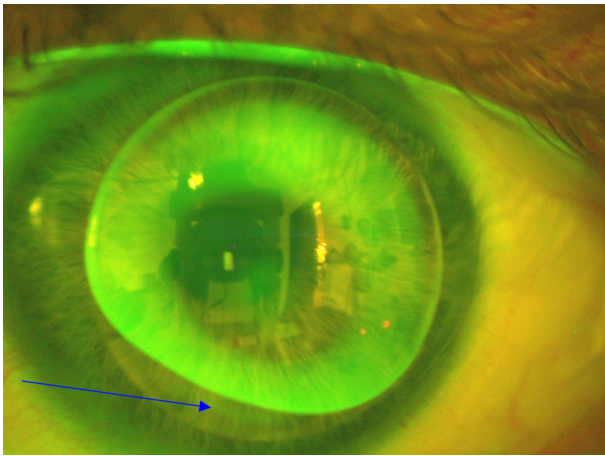

Figure 2. Fluorescein pattern with current aspheric (R)GP.
Previous (R)GP fittings had failed because of discomfort and frequent loss of the contact lens. The current aspheric, rotationally symmetrical design (R)GP lens with a 9.30mm diameter resulted in dramatic inferior lift-off, as can be seen in Figure 2 (red arrow).